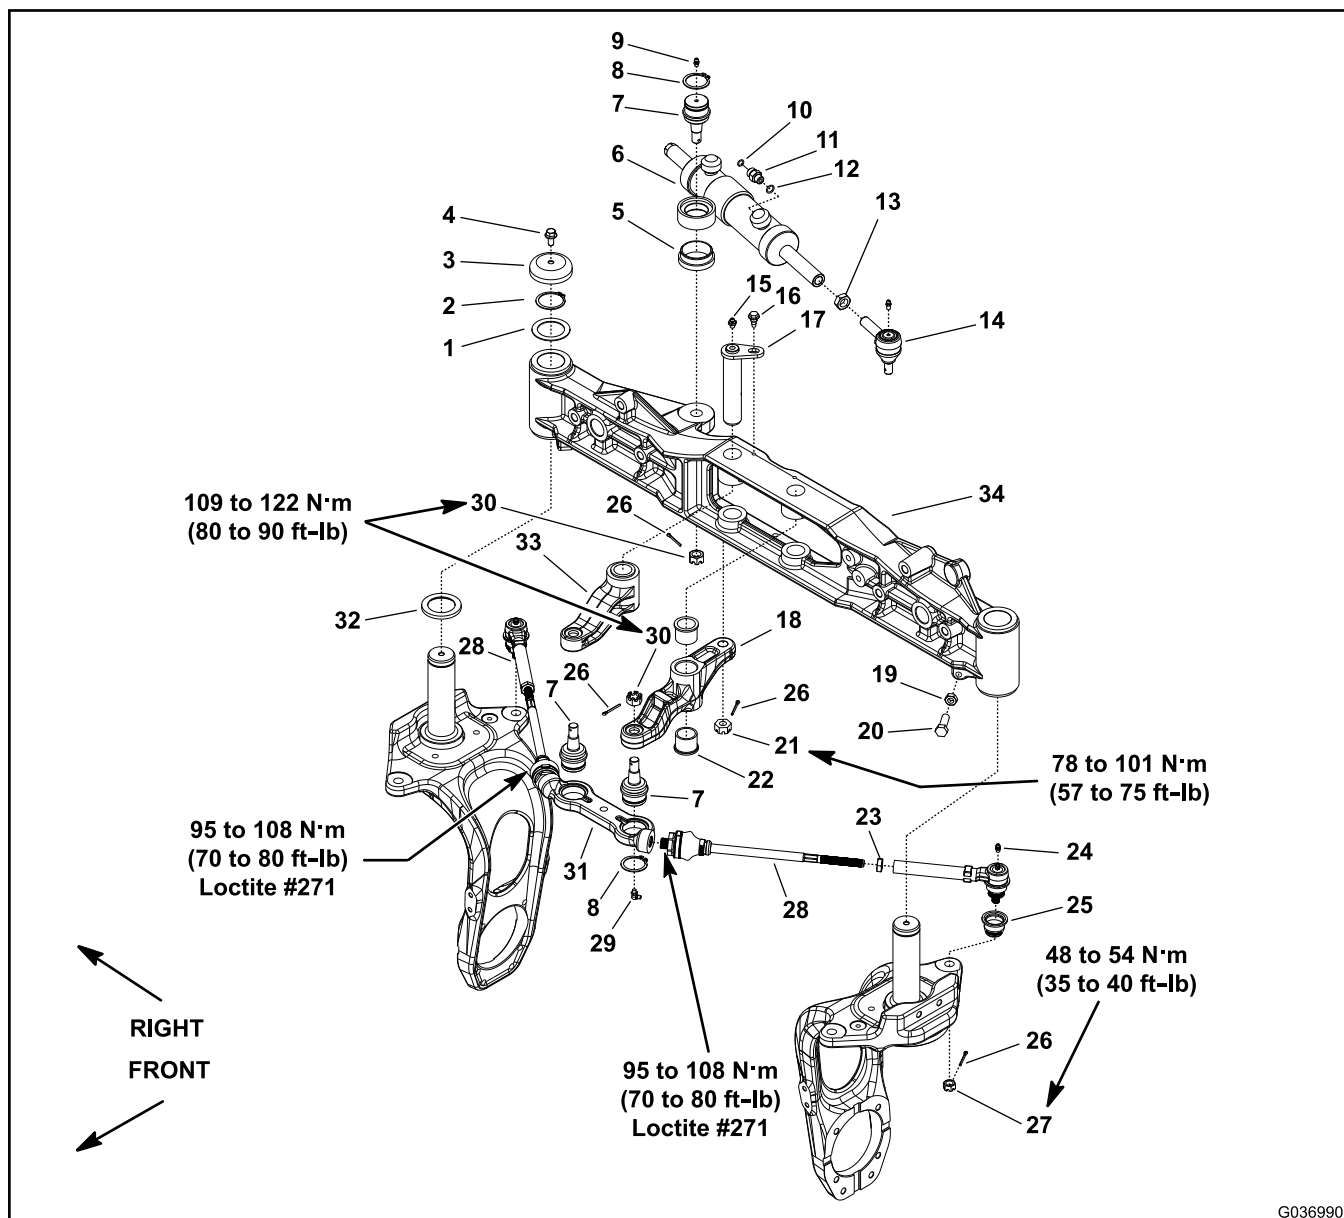
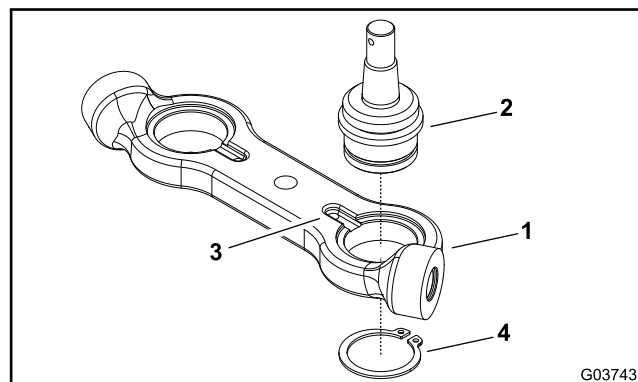

Figure 278
Figure 279
9. Remove the tie rod (item 28 in Figure 278) from the machine as follows:
10. Remove the additional rear steering components as necessary (Figure 278). When removing the center link, carefully pry the center link ball joints from the right and left arms with a ball joint pickle fork.
11. If the flange bushings (item 22 in Figure 278) in the rear axle, rear axle left arm, or rear axle right arm are worn or damaged, replace the bushings; refer to Servicing the Steering Assembly Bushings \(page 6–38\).
1. Install all the rear steering components that were removed (Figure 278). Note the torque specifications identified in Figure 278 during assembly. If the ball joints were removed from the center link, press new ball joints into the center link from the side of the link that has a notch at the ball joint bore (Figure 279).
2. Install the tie rod (item 28 in Figure 278) to the machine as follows: